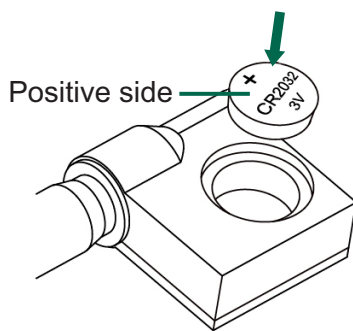

fig. 2
- » Insert the CR2032 battery with the positive side facing out (see fig. 2).